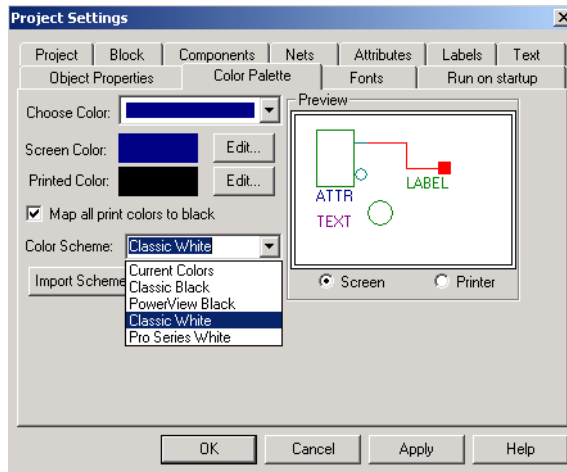

Figure 5-28. Selecting a Color Scheme in ViewDraw for Actel
- 3. Choose a different color scheme from the Color Scheme list, as shown in Figure 5-28.**